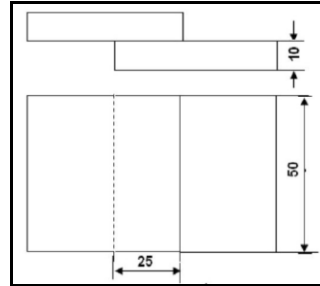

Figure 3.1. Lap Joint 1
- Single fillet and double fillet joints shown in Figure 3.1 are used on all thicknesses; double fillet joint is better as compared to single fillet when the joint is subjected to severe loading. Single